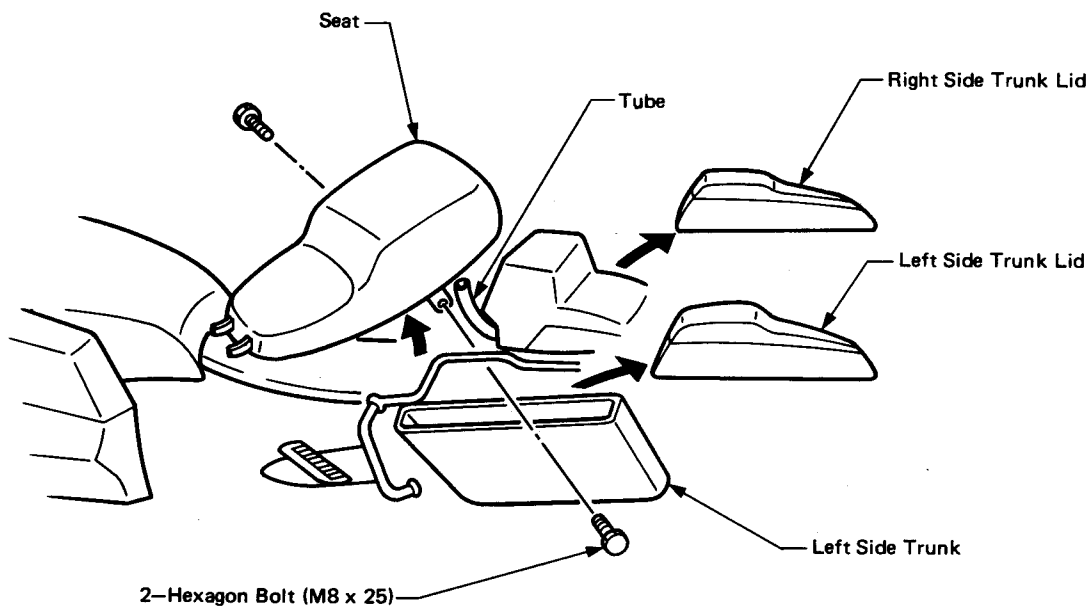

Fig. 5
- 5.** (1) Remove the right and left Side Trunk Lids, the Hexagon Bolts and finally the Seat, as shown in Fig. 5.